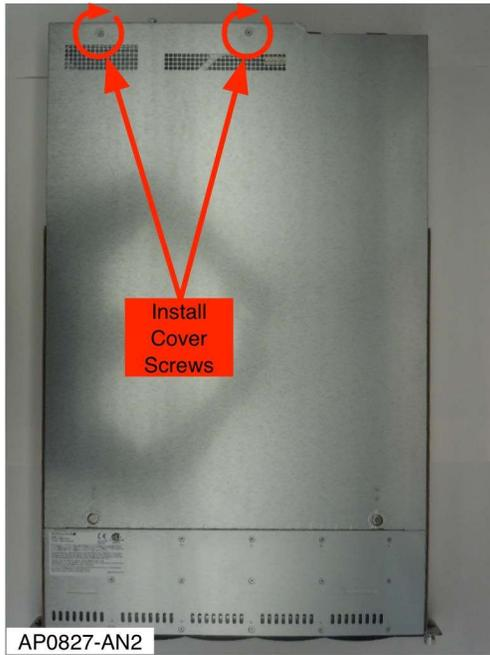

Figure 15: Installing Screws Into Top Cover
1.11 Locate the two flathead securing screws previously set aside. Install them into the cover and tighten. See Figure 15.